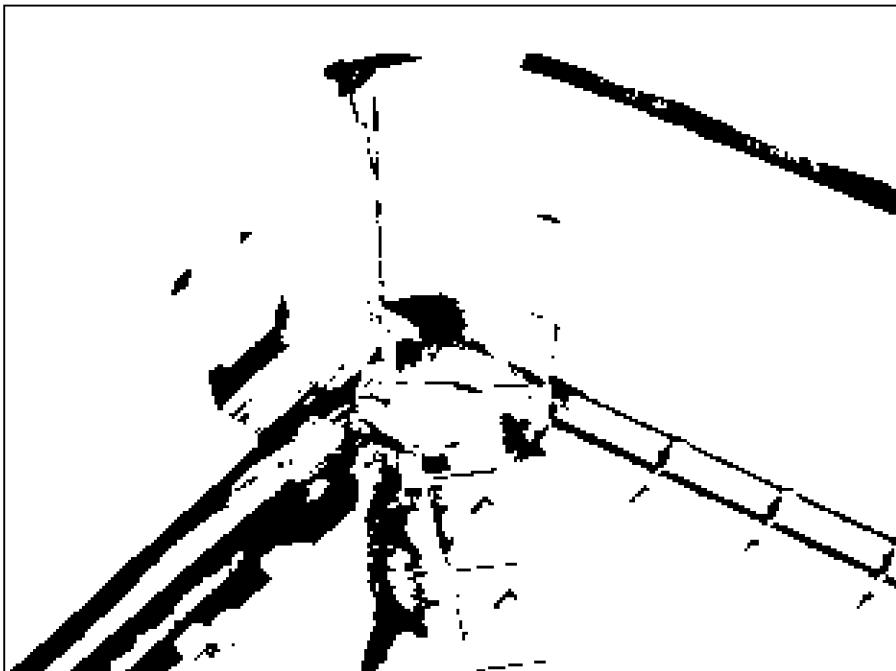

Figure 17-4:
- 2. Remove the metal tape, as shown in Figure 17-4, that is in each corner of the inside of the casing.**
The rear is the side with the big notch, as shown in Figure 17-4.